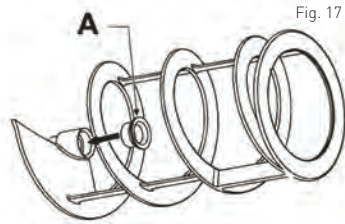

Fig. 17
- Always check for the integrity of the seal (A), should it be worn, replace it with a new one (supplied).
- Replace the auger seal hat cover (A) for at least every 12 months.
- Insert the auger seal hat cover (A) as below (See Fig. 17).